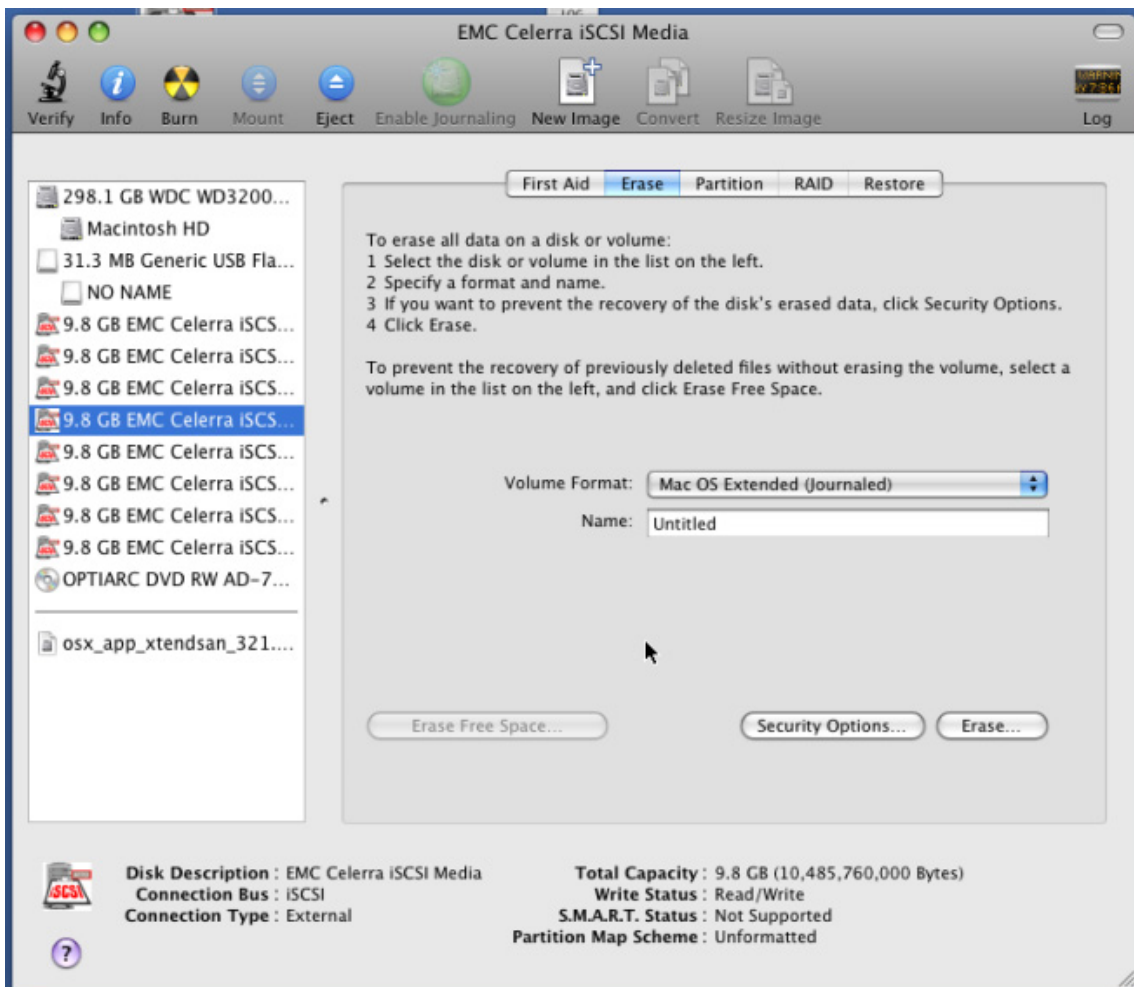

Figure 19 EMC Celerra iSCSI Media dialog box
15. The EMC Celerra iSCSI Media dialog box displays, as shown in Figure 19.